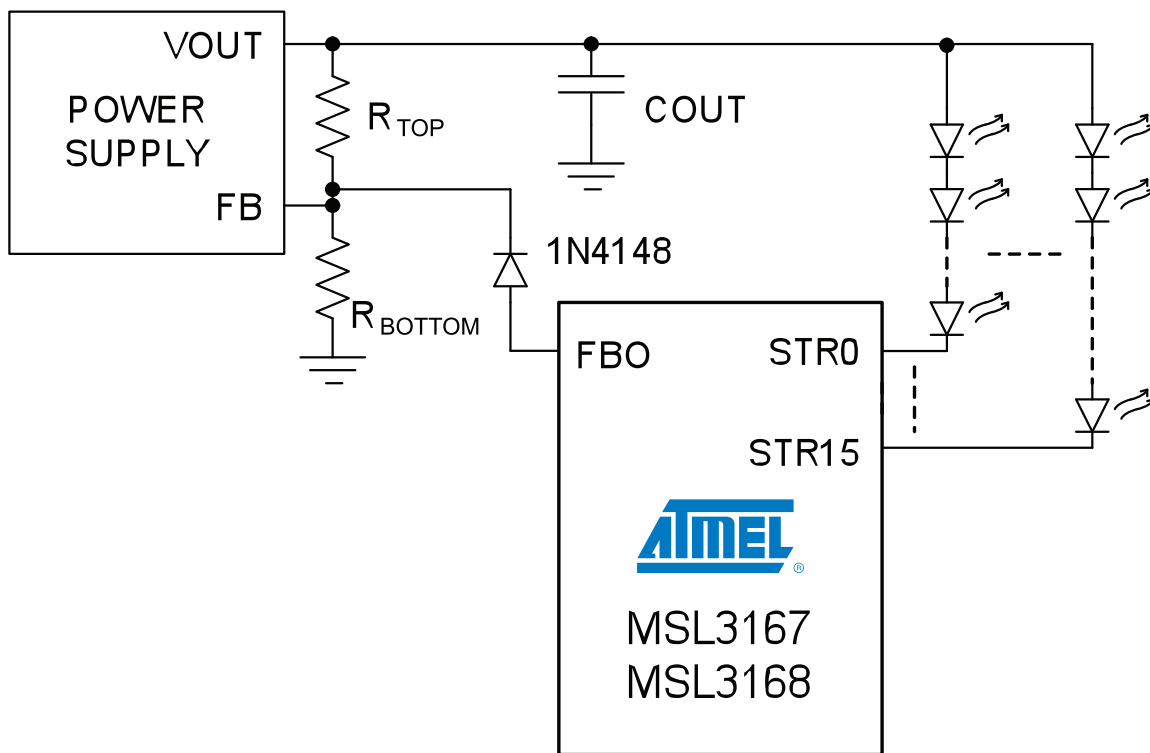

Figure 5. Atmel LED Drivers-MSL3167/8 FBO Connection to Power Supply Voltage Divider
The Efficiency Optimizer (EO) improves power efficiency by injecting a current of between 0 and 255 $\mu\text{A}$  into the voltage divider of the external power supply (Figure 5), dynamically adjusting the power supply's output to the minimum voltage required by the LED strings. This ensures that there is sufficient voltage available for LED current control and good power supply noise rejection, while minimizing power dissipation. The power supply must have a nominal feedback voltage of no more than 3.5V, and the voltage setting resistor divider must be accessible (sizing the resistors is covered in the next section).
The MSL3167/8 are designed to control LED string power supplies that use a voltage divider ( $R_{TOP}$  and  $R_{BOTTOM}$  in Figure 5) to set output voltage, and whose regulation feedback voltage is not more than 3.5V. To select the resistors, first determine  $V_{OUT(MIN)}$  and  $V_{OUT(MAX)}$ , the minimum and maximum string supply voltage limits, using:
where  $V_{FB}$  is the regulation feedback voltage of the power supply. Place a diode (1N4148 or similar) between FBO and the supply's feedback node to protect the MSL3167/8 against current flow into FBO (Figure 5).